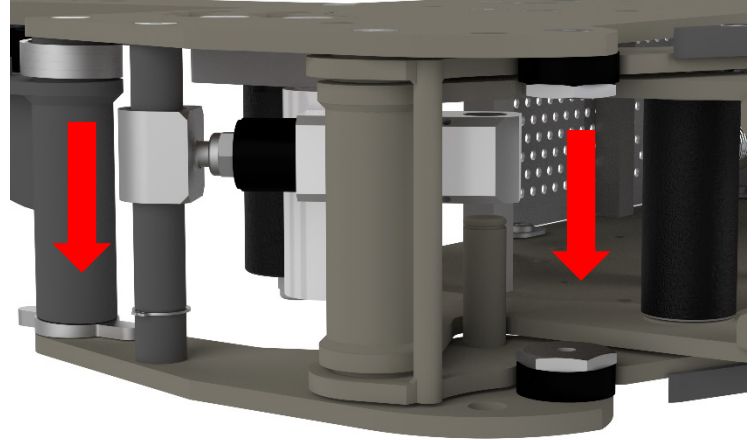

Figure 10-9
4. Press the spring barrel against the spring mandrel until it is ready to slide back on the short shaft. **See Figure 10-9.** Move the whole sub assembly back to its original position.